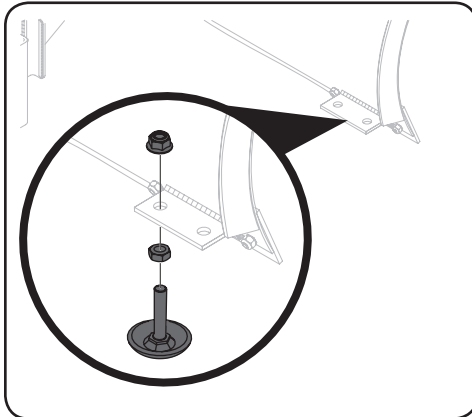

Figure 2-13
2. Slide assembly through the mounting tab located on the plow blade and use a flangelock nut (712-04150) found in hardware pack 4 (689-00680) to secure the skid shoe assembly to the plow blade. Hold the skid shoe secure at the base while turning the top nut to tighten. See Figure 2-13.